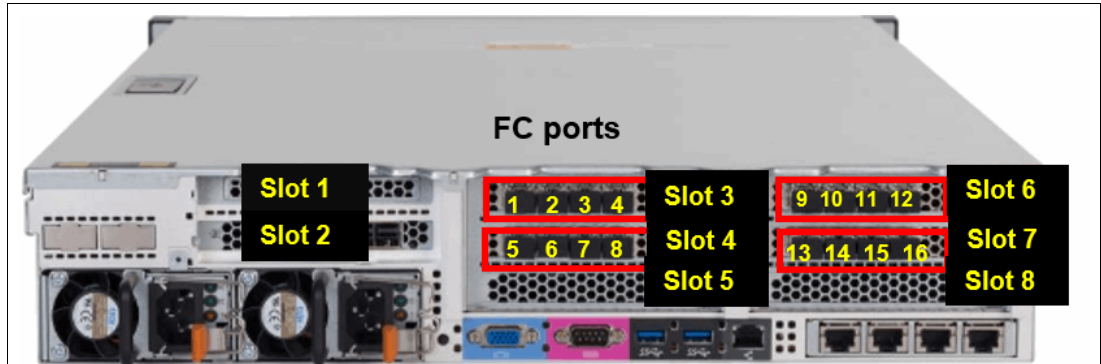

Figure 2-9 SAN Volume Controller 2145-SV1 rear port view
The SAN Volume Controller can have up to four quad Fibre Channel (FC) host bus adapter (HBA) cards (16 FC ports) per node. Figure 2-9 shows the port location in the rear view of the 2145-SV1 node.